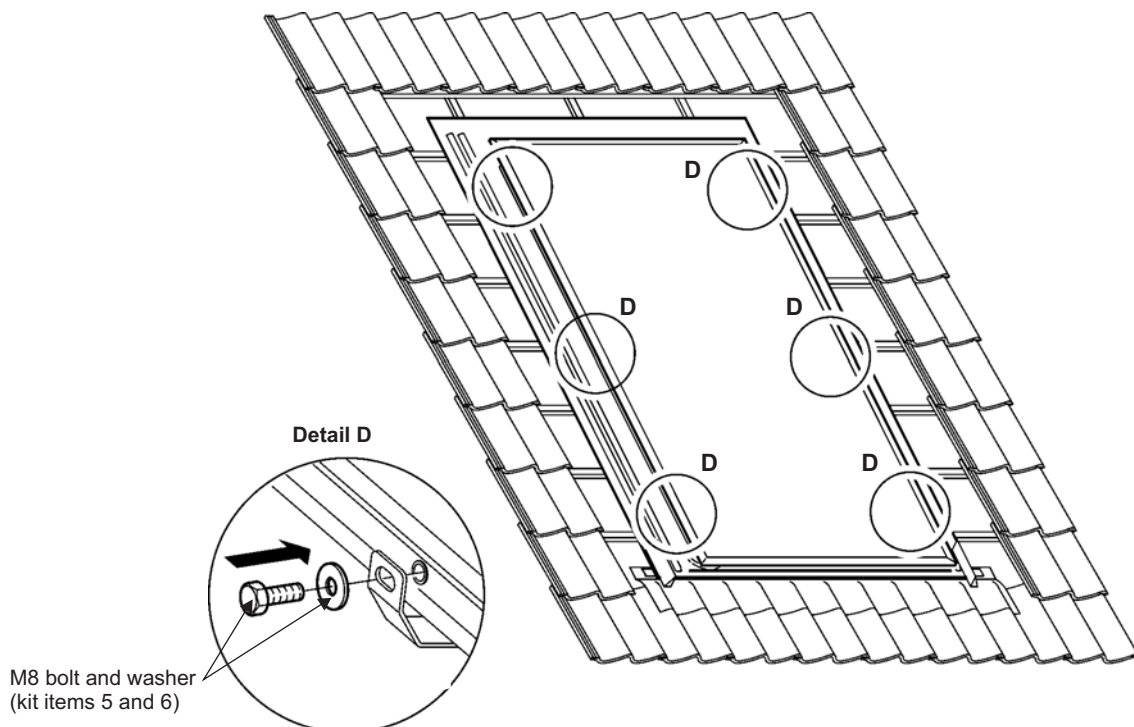

Fig. 8 - Secure the collector
- Secure the collector to the mounting plates on the flashing sheet using the five M8 bolts and washers supplied (kit items 5 and 6) as shown in detail 'D' in Fig. 8. Tighten all six bolts.